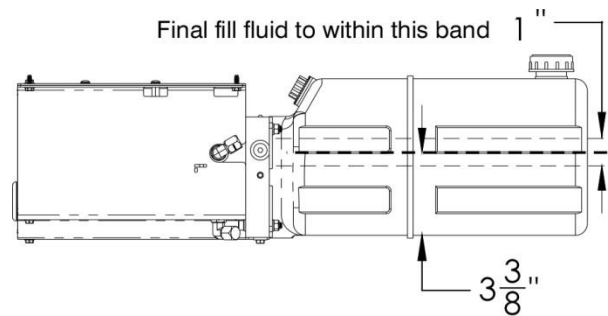

Figure 6. Final fill fluid level.
7. Add fluid to the reservoir until the fluid level is within the band shown in Figure 6.